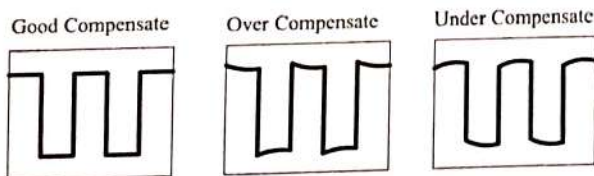

Fig.5-1
- (1) Set the knobs on the panel (shown as Table 3) to get a sweep baseline.
- (2) Set V/DIV to be 50ms/DIV.
- (3) Connect 10:1 probe to CH1 and connect to the calibrating signal 5.
- (4) Operate the controlling knobs mentioned as Chapter 4 to get a wave like Fig. 5-1.